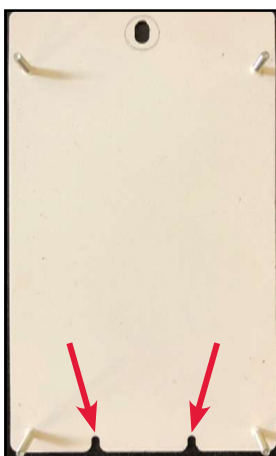

Figure 30
11. Insert the controller and mounting plate into the Aqua-Hot. As you insert the controller and mounting plate into the Aqua-Hot, the bottom of the mounting plate should slide along the wall with the top of the mounting plate leaned away from the wall to ensure the bottom catches the key-ways (Figure 30) while the top clears the mounting stud.